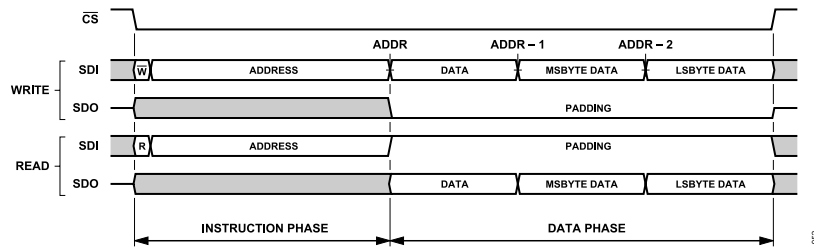
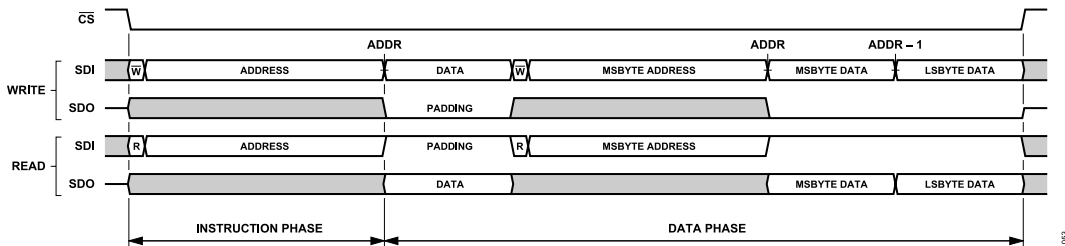
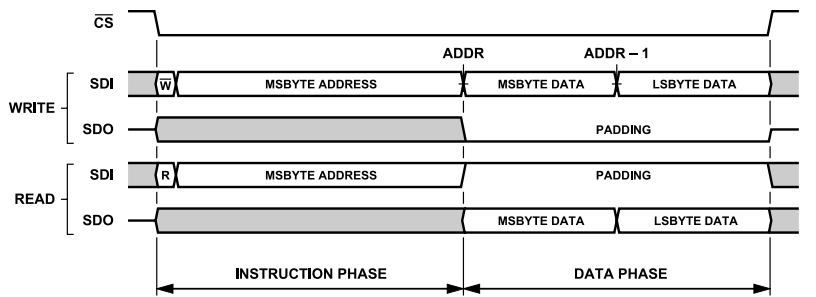
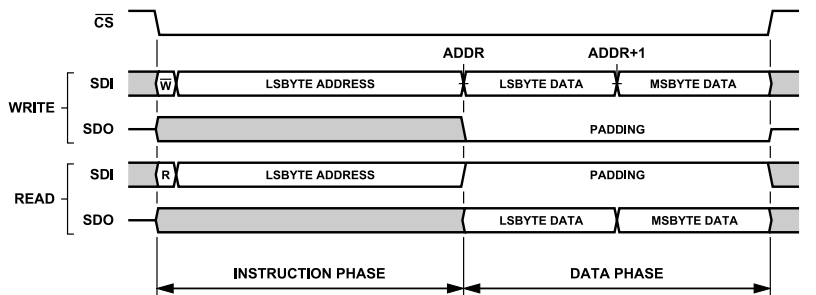

Figure 54. Interface Access Example, Default Interface Configuration, Streaming Mode (ADDR\_ASCENSION = 0)
Figure 55. Interface Access Example, Single Instruction Mode (SINGLE\_INST = 1), All Other Interface Options Default
Figure 57. Single Instruction Format, ADDR\_ASCENSION = 0 (Descend), STRICT\_REGISTER\_ACCESS = 1 (Enabled)
Figure 58. Single Instruction Format, ADDR\_ASCENSION = 1 (Increment), STRICT\_REGISTER\_ACCESS = 1 (Enabled)
Figure 54 illustrates the generic SPI frame formatting for a serial transaction using the default interface configuration. In this example, a portion of the configuration register space consisting of a byte-wide register and a multibyte register is accessed. The address for the byte-wide register resides in the most significant address (ADDRESS) and the most significant byte of the multibyte register resides in the least significant address of the register segment. By default, the ADDR\_ASCENSION property is set to descending, indicating that the address for the most significant register is passed to the host controller during the instruction phase. Depending on the selected operation, the instruction word
In single instruction mode (SINGLE\_INST = 1), the memory access controller requires an instruction phase to transmit for each register accessed in a given SPI frame as illustrated in Figure 55. This mode is useful when access to nonadjacent sections of the register space is required in a given SPI frame. Note that, the same access flexibility can be achieved in stream mode by initiating a new SPI frame for each unique register access.
The address ascension selection (ADDR\_ASCENSION) bit, as described in previous sections, determines how the internal interface address pointer is updated for each byte of data transmitted to the AD4088 in streaming mode (SINGLE\_INST = 0). If using single instruction mode (SINGLE\_INST = 1), each register is directly addressed through its own instruction phase as illustrated in Figure 55, and thus, the address pointer is not updated. Regardless of the setting for SINGLE\_INST, the ADDR\_ASCENSION bit directly impacts the formatting of the SPI frame in terms of selection of the instruction phase starting address and byte order of the data phase payload. This impact is described in greater detail in the Strict Access Selection and Multibyte Registers section as much of the data formatting is dependent on this interface configuration selection. The ADDR\_ASCENSION selection bit is located in the Interface Configuration A register (see the Interface Configuration A Register section, Address 0x00).
As indicated in Figure 57, the address counter, by default, automatically decrements (ADDR\_ASCENSION = 0) such that the most significant byte of the multibyte register is accessed first, followed
As an extension of this concept, when STRICT\_REGISTER\_ACCESS = 1, any SPI frame that accesses a multibyte register as the first entity in the data transfer must correctly set the starting address in the instruction word to correspond to the ADDR\_ASCENSION selection. In the case that the address counter automatically decrements (ADDR\_ASCENSION = 0), the starting address is assigned to the register address for the least significant byte of that multibyte register, and conversely, if configured to increment automatically, the starting address must be set to the register address for the most significant byte. As a result of the change to ADDR\_ASCENSION from automatic address decrement (0) to automatic increment (1), Figure 54 and Figure 55 will change as illustrated in Figure 57 and Figure 58 to accommodate the changes in data phase byte order and instruction phase multibyte register start address.